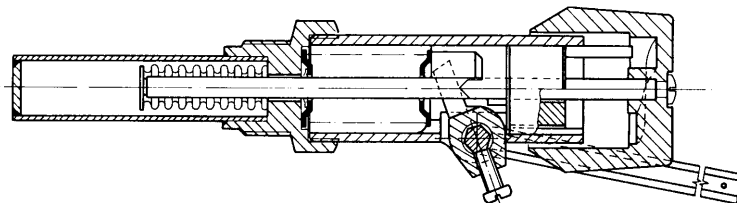

Fig. 7
4.6.1 Regulatorul "THERMOMAT RT-C" (fig. 7)